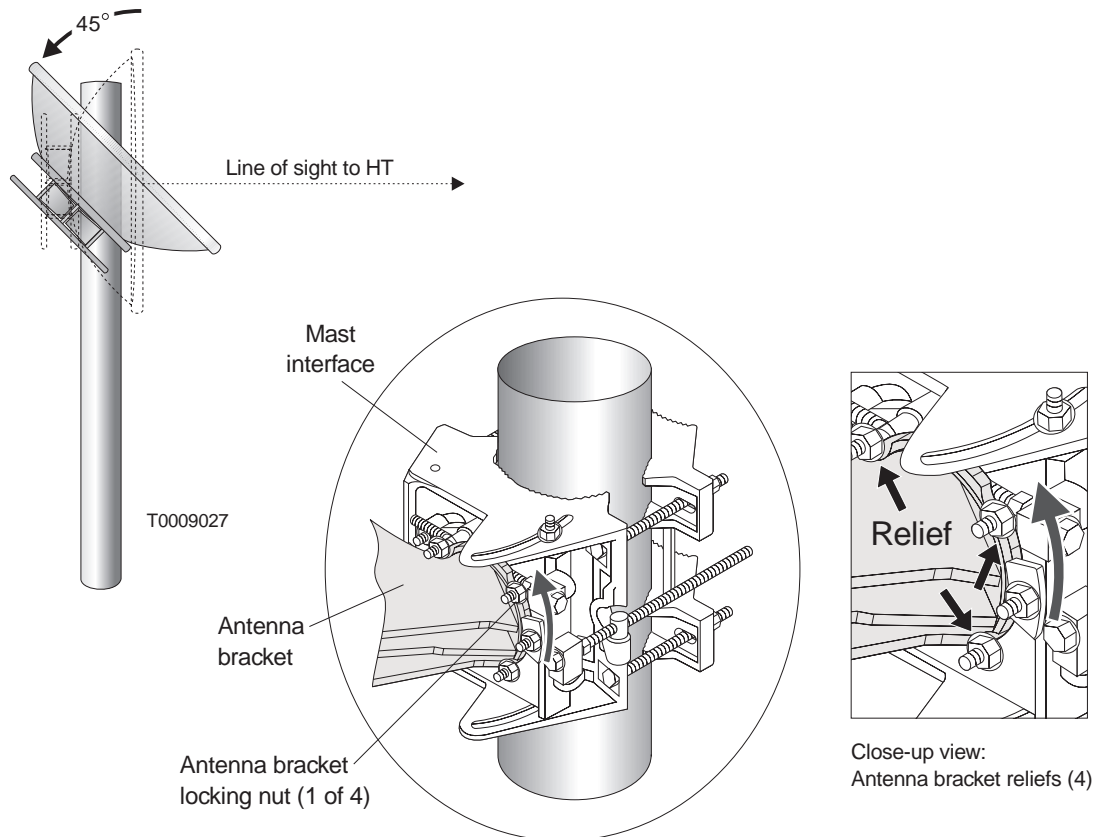

Figure 6-10 Rotating the antenna so the antenna bracket can be placed against the mast interface
2. Rotate the antenna approximately 45° away from the HT until the antenna bracket reliefs (curved indentations) are aligned with the four nuts on the mast interface, as shown in figure 6-10.